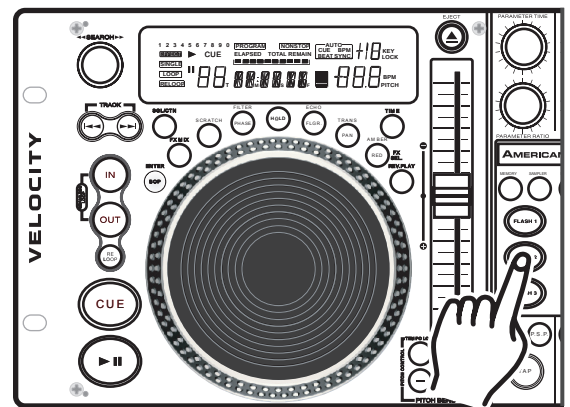

Figure 26
- 2) Press the **MEMORY BUTTON (12)**. The **MEMORY BUTTON (12)** will glow red indicating memory is ready to be stored.
- 4) The **MEMORY BUTTON (12)** LED will turn off, when your sample is locked into memory.
- 5) At this point your sample has been stored into memory. The original loop you used to create the sample will remain playing until the **OUT BUTTON (2)** is pressed (Figure 26).